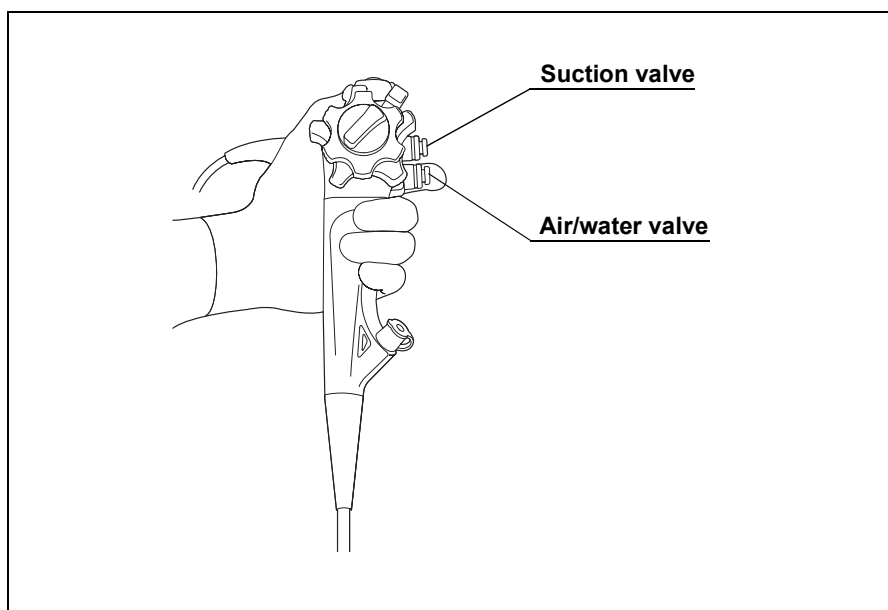

Figure 4.5
1. Cover the air/water valve's hole to feed air from the air/water nozzle at the distal end (see Figure 4.5).
2. Depress the air/water valve to feed water onto the objective lens (see Figure 4.5).
Depress the suction valve to aspirate excess fluid or other debris obscuring the endoscopic image (see Figure 4.5).